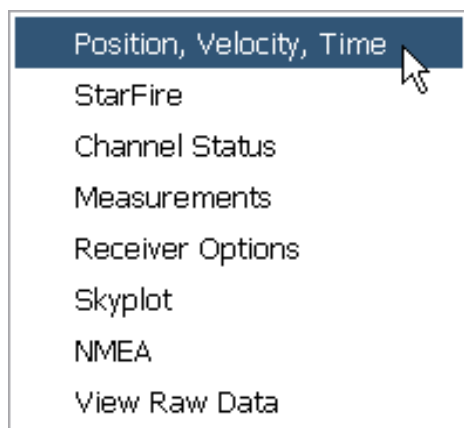
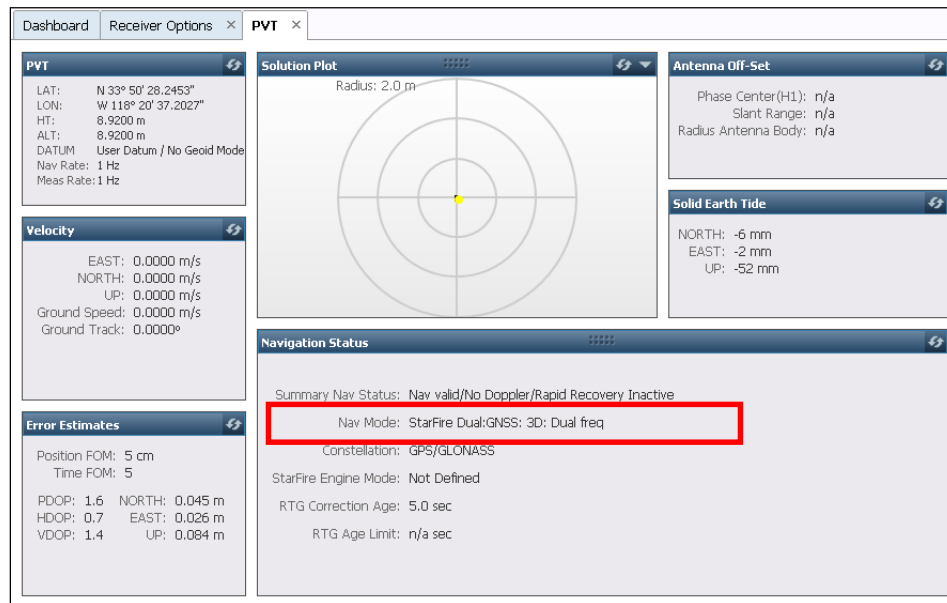

Figure 116: *Detailed Views Menu – PVT*
Figure 117: PVT Tab – StarFire Dual Nav Mode
- ✓ Click *Position, Velocity, Time* on the *Detailed Views* menu (see Figure 116) to determine if the receiver is navigating in StarFire mode. The *PVT* tab opens (see Figure 117).